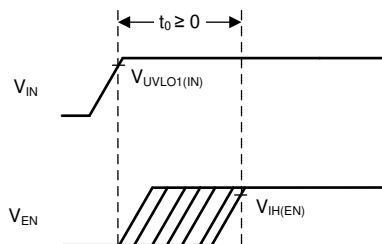

图 8-5. Sequencing Diagram
- V_{BIAS} and V_{IN} can be sequenced in any order, as long as V_{EN} is tied to V_{IN} or established after V_{IN}, as shown in 图 8-5.